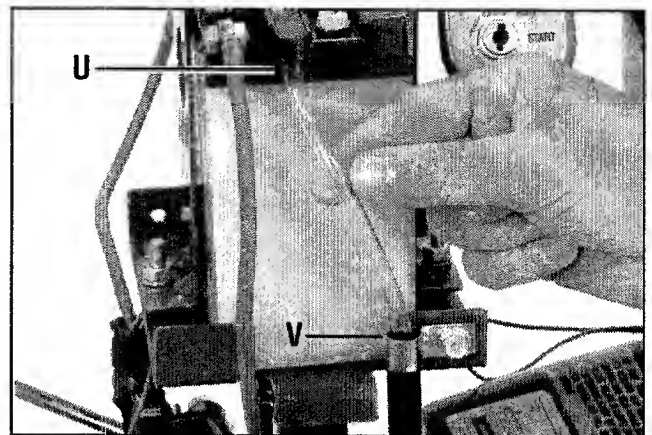

Figure 2-23: Install vent tube.
5. Install one end of the clear plastic vent tube over the vent fitting (U, Figure 2-23) on the battery. Insert the other end down into the vent tube shield (V).